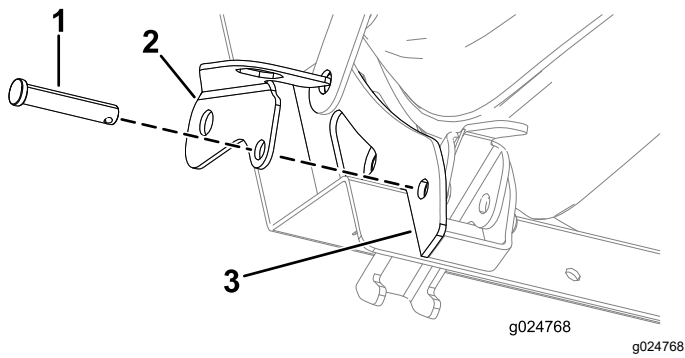

Figure 21
3. Partially insert the clevis pin through the lock bracket (Figure 21).
- 4. Align the lock bracket and the clevis pin through the hole of the outboard-seat gusset (Figure 21).